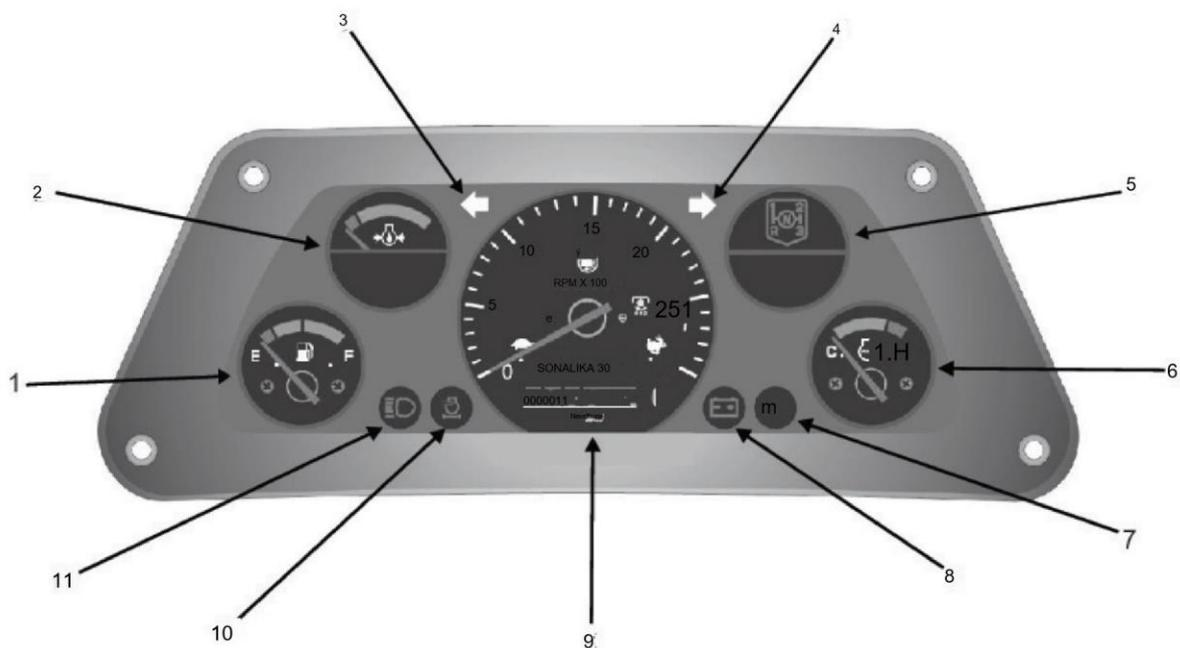

Fig. 3.2b
3.2.b Instrumentpanel (Til 26 model) - Fig. 3.2b